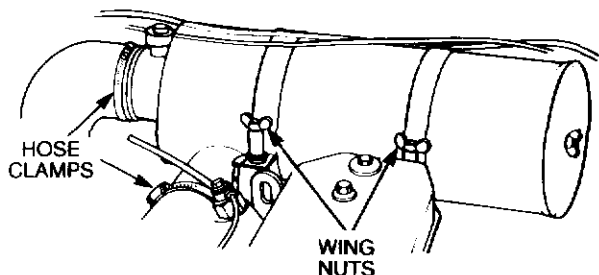

Figure 3-13 Air cleaner removal
- a. Remove the hose clamps securing the air inlet and outlet hoses to the air cleaner housing (see Fig. 3-13) then remove the two wing nuts from the clamp bolts. Carefully lift the air cleaner out of the mounting brackets.